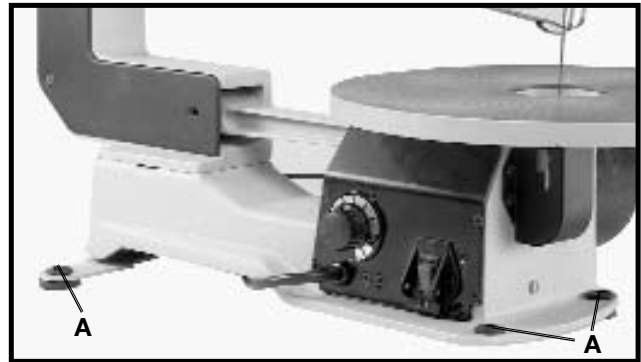

Fig. 16
⚠ WARNING: Your scroll saw **MUST** be securely fastened to a stand or workbench using the holes in the four rubber feet, three of which are shown at (A) Fig. 16.